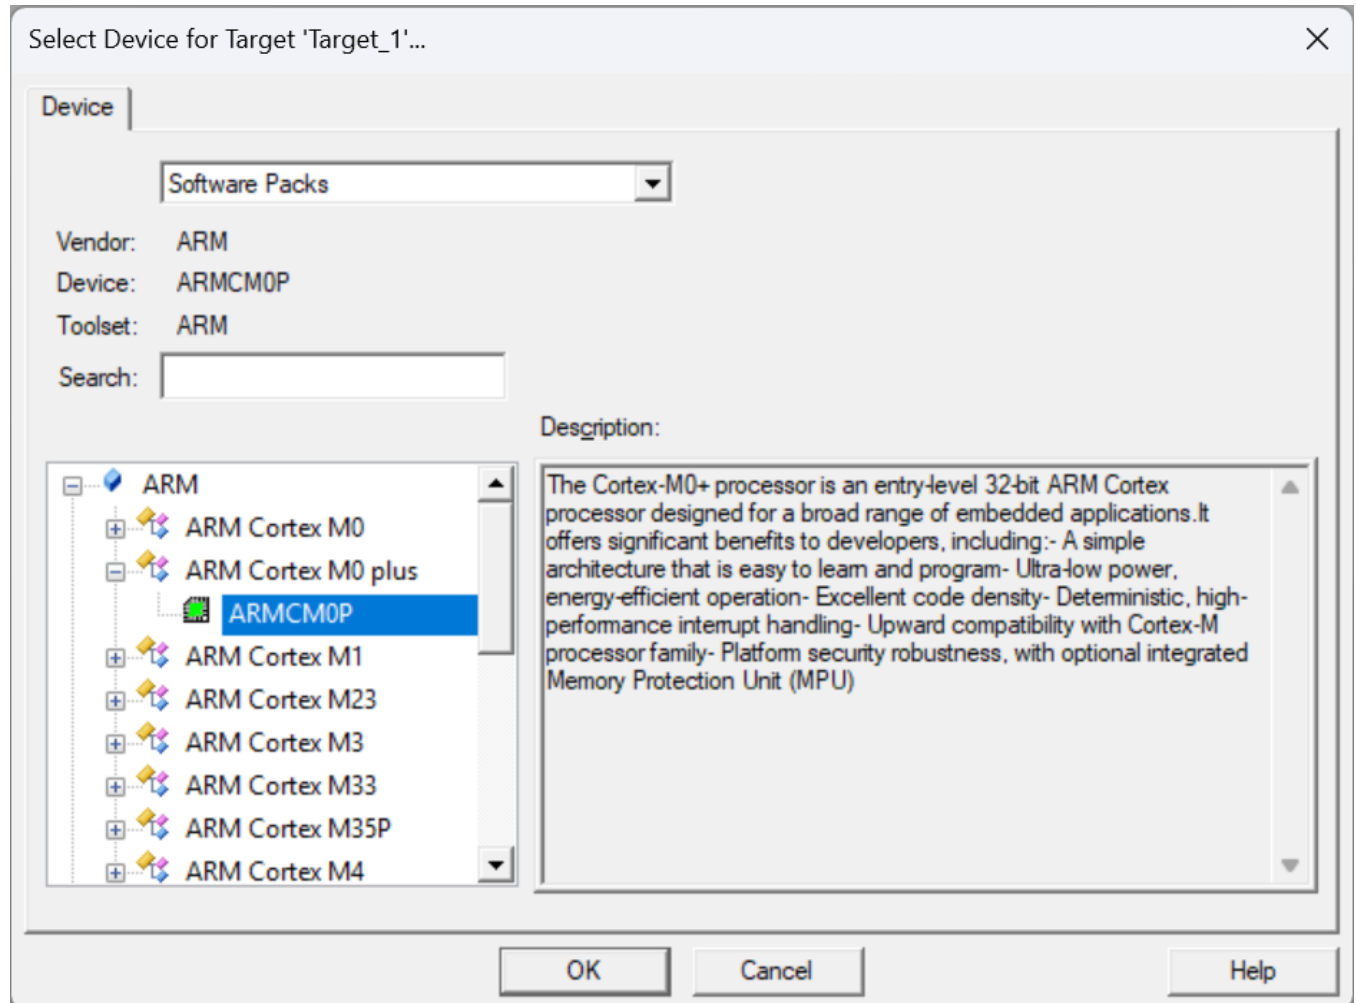

Figure 2: Select Device
5. Select **Device** and click **OK**, see Figure 2.